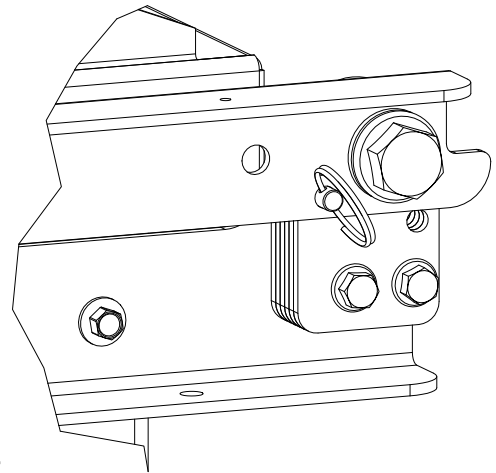

Figure 7
15. To lock hinge in closed position, insert a quick release detent pin through the locking hole of the top hinge bracket, through the bottom hinge spacers, and into the bottom hinge bracket as shown in Figure 7.